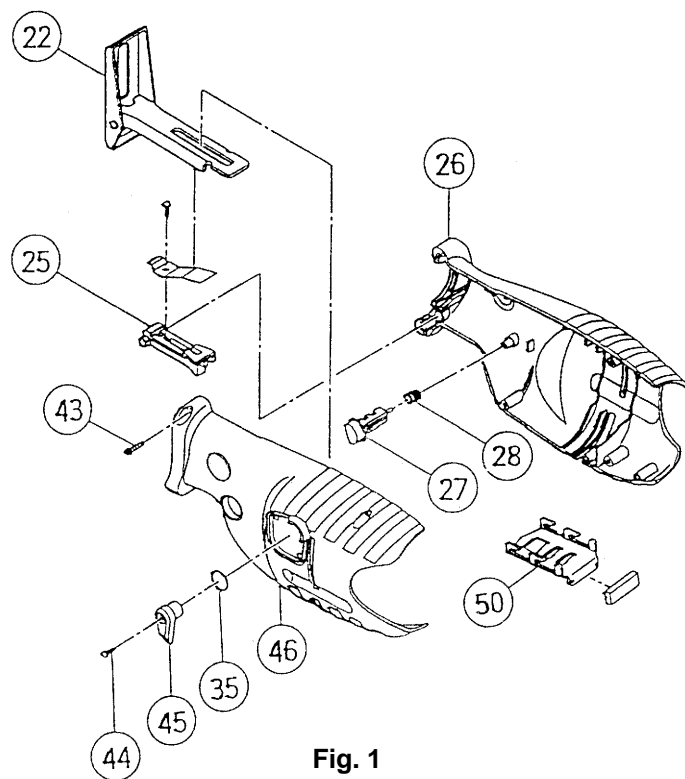

Fig. 1
(1) Disassembly of Front Covers (A) and (B) **[46]** **[26]** section (Fig. 1)